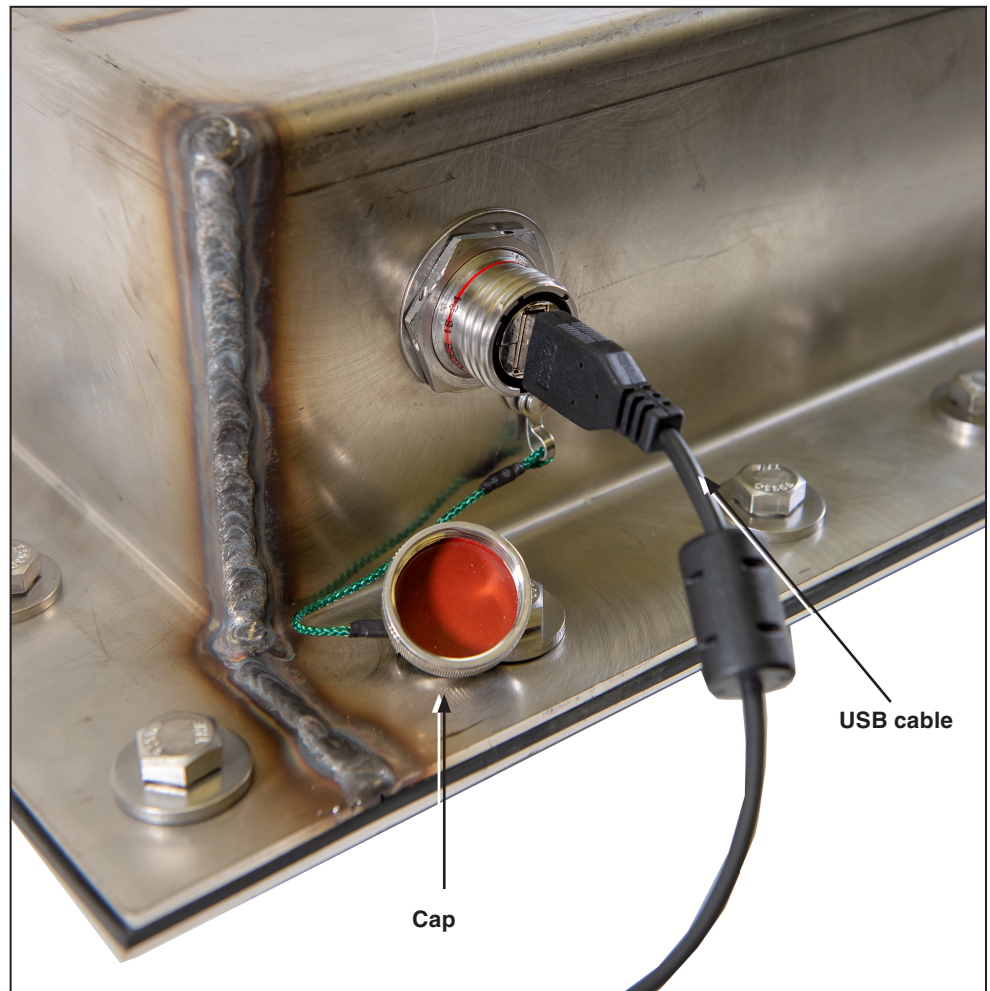

Figure 2. Remove the data port cap and plug a USB cable into the control. Plug the opposite end of the cable into a PC.
- STEP 2.** Remove the USB data port cap. Plug the A-male end of a USB cable, no longer than three meters, into the USB receptacle on the side of the overcurrent control. See Figure 2. This cable should have a minimum conductor size of 24AWG. Plug the opposite end of the USB cable into an open USB receptacle on the PC. Windows OS will detect the overcurrent control as a USB device.